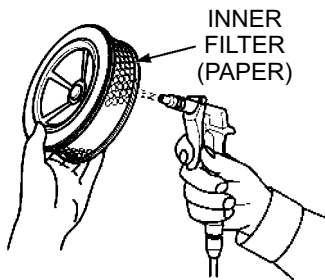

Figure 15. Cleaning Inner Paper Filter
6. To clean the paper air filter (Figure 15), tap the filter element several times on a hard surface to remove dirt, or blow compressed air (not to exceed 30 psi (207 kPa, 2.1 kgf/cm²) through the filter element from the air cleaner case side.